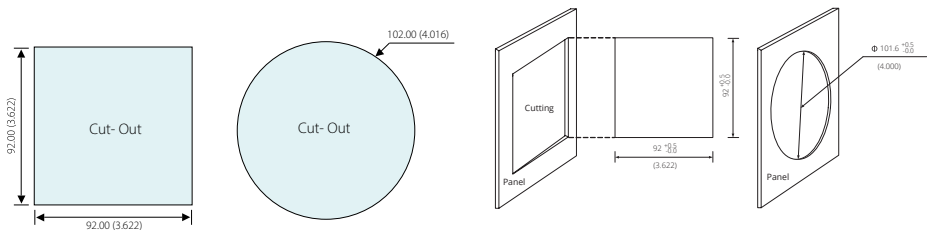

Figure 2-9 Panel Cutout
1. Cut a square hole or round hole on the panel of the switchgear. The cutting size can be seen in Figure 2-9.